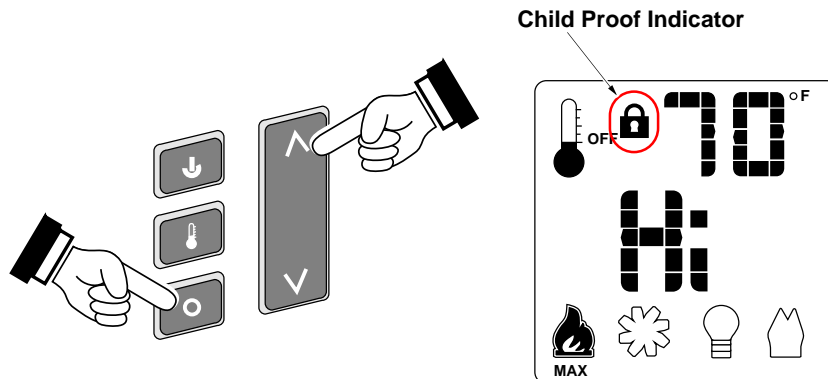

Figure 18
- Press both the MODE and UP buttons simultaneously to turn this feature on and off (see Figure 18 below).